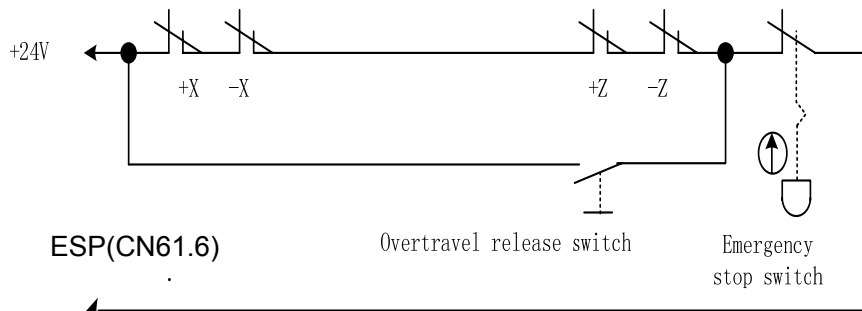

Fig. 2-34A Serial connection between the limit switch and the system emergency stop
- ① The limit switch is serial connected with the system emergency stop, the connection method is shown as the following figure 2-34A: